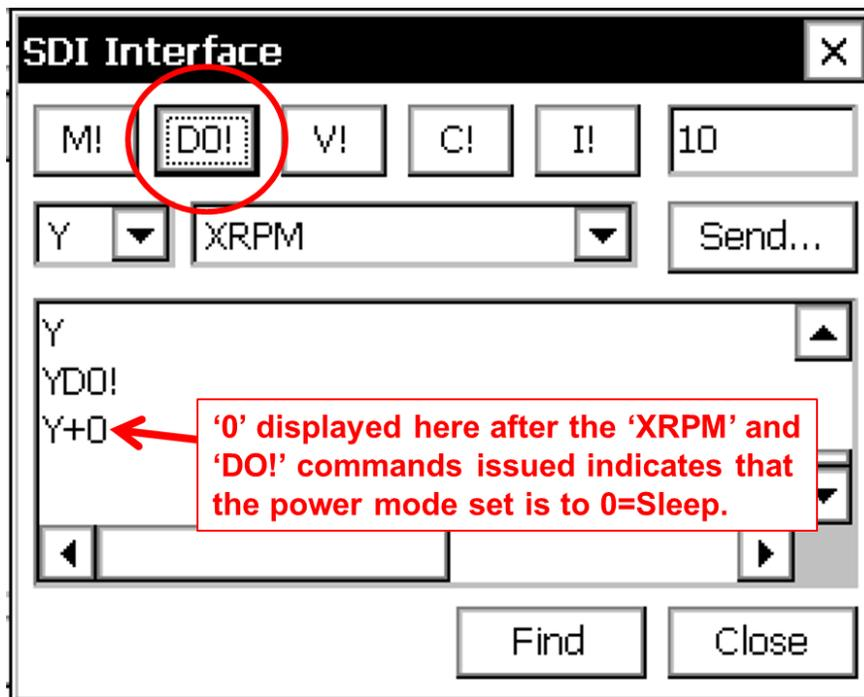
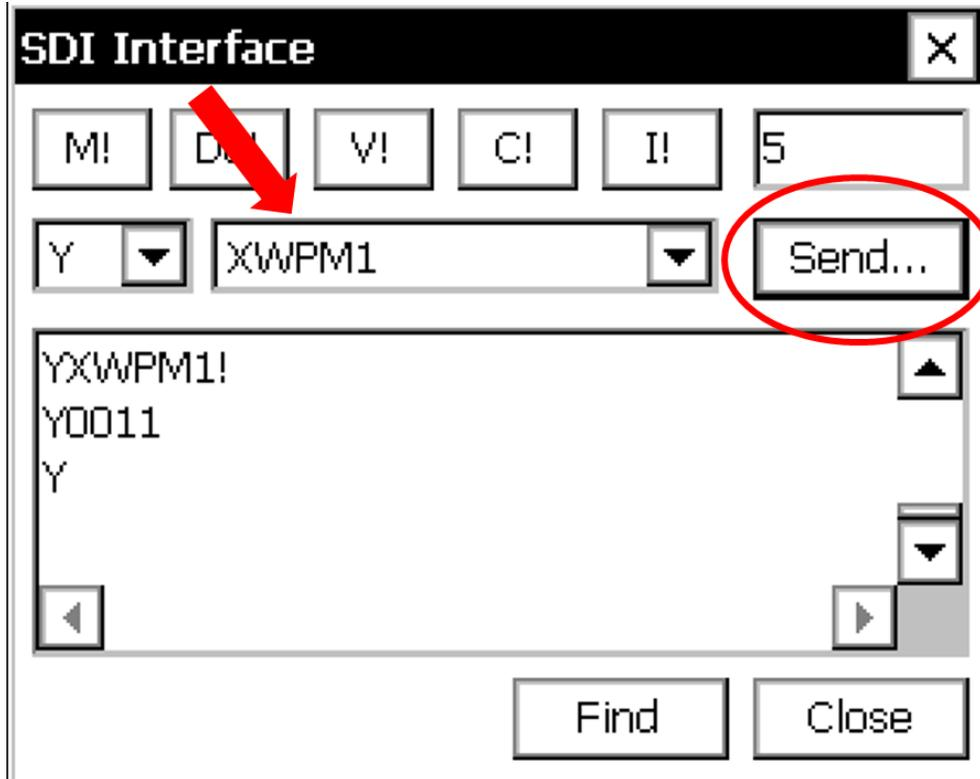

Figure 3-25. Click DO! to display power mode.
Figure 3-26. Type XWPM1 and then click Send.
2. Next, click the '**DO!**' button to display the power mode setting that has been read (fig. 3-25). If '**0**' is displayed, then the power mode is set to '**Sleep**' and it needs to be changed. If '**1**' is displayed, then the sensor's power mode is already configured to '**Fast Measure**' and can be left as is.
3. If the returned sensor power mode setting is '**0**' as shown in fig 3-25, set the power mode to '**1**' by typing the command '**XWPM1**' and then click the '**Send**' button (fig. 3-26).
- In the Xterm's **Setup Access** screen shown in fig. 3-25, select the **Log** tab under **Setup Access**. The screen in fig. 3-26 will appear.
2. Use the **Select Log:** drop-down menu shown in fig. 3-26 to select the 1-Hz log (**MWWL_1Hz.log**) on Flash Disk.
3. Once the **Flash Disk\ MWWL_1Hz.log** is selected, raw 1 Hz data being recorded by the microwave wave radar sensor should be displayed in the window above the drop-down menu as shown in fig. 3-26. Confirm that reasonable range-to-water surface values are being measured and that values are being updated at a 1-Hz rate in the display window.
4. Close the log by clicking the **Close** button (lower right, fig. 3-26), go back to the **Main** tab, and log out of the DCP. Close Xterm and disconnect the laptop-to-DCP cable.